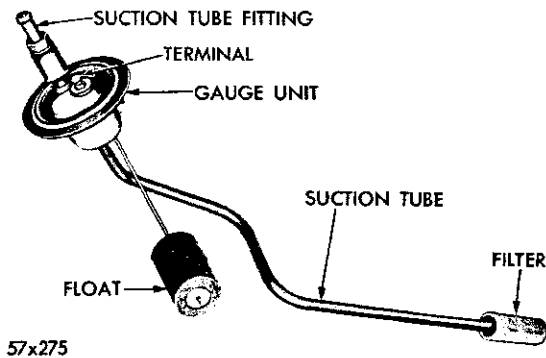

Fig. 83—Fuel Gauge Tank Unit
- (3) Remove the nuts that hold the ends of the fuel tank hold down straps to the frame. Lower the front end of the tank far enough to disengage the filler tube from the rear panel and slide out from under the vehicle.
- (4) Remove the tank gauge unit, using spanner wrench Tool C-3582 (Fig. 83). Check the rubber grommet around the filler tube. If cracked or deteriorated, install a new grommet at reassembly.